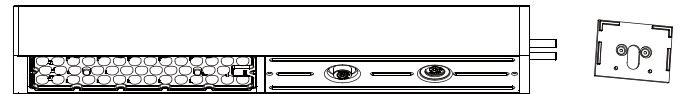
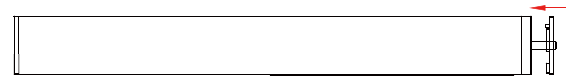

Fig. 3
Fig. 4
1. Take out the lamp body and waterproof rubber pad from the packaging box first, see Fig. 3, and then put the waterproof rubber pad into the end of the lamp body according to the hole position and groove, see Fig. 4.